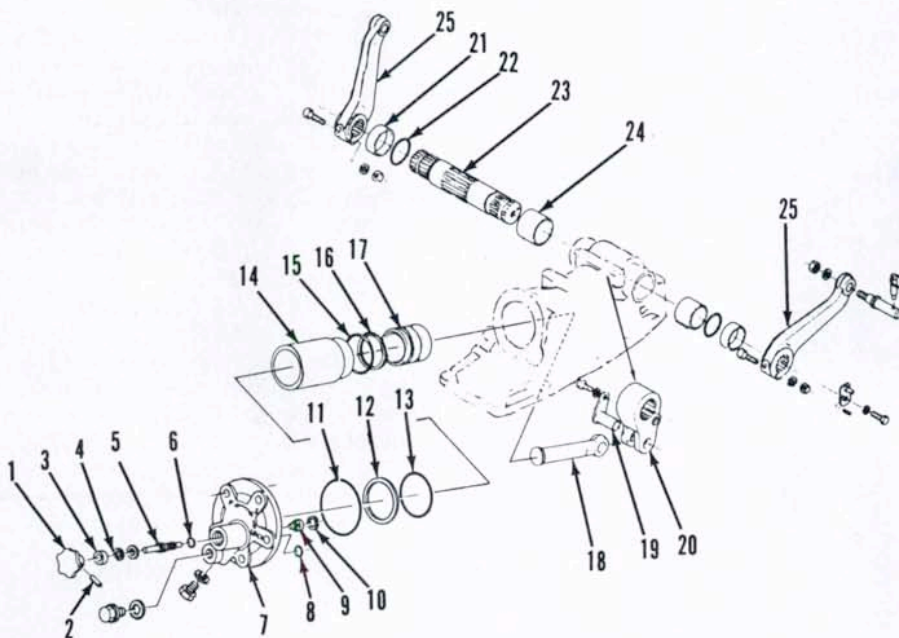
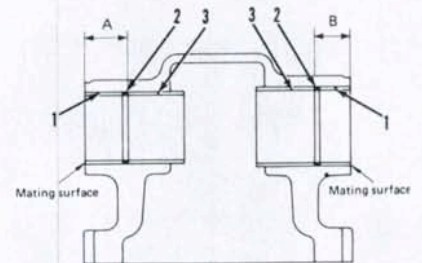

Fig. 172—Exploded view of rockshaft assembly and lift cylinder assembly used on all models.
Fig. 174—When renewing rockshaft bushings, press bushings into housing bores to dimension "A" on right side and dimension "B" on left side.
**128. OVERHAUL.** To remove hydraulic cylinder head (7—Fig. 172), cylinder liner (14) or piston (17), first remove cylinder head mounting cap screws. Apply down pressure to lift arms to force off cylinder head. Cylinder liner and piston may come out with cylinder head. If they do not come out, hand push piston and liner out of housing.
Remove retaining pin (19—Fig. 172), piston rod (18) and lift arms (25). Bump rockshaft (23) out right side of housing. Spacers (21), "O" rings (22) and bushings (24) can be removed at this time.
Inspect cylinder liner and piston for excessive wear, scoring or other damage. Renew cylinder liner if wear exceeds 0.15 mm (0.006 inch). Clearance between rockshaft and bushings should not exceed 0.5 mm (0.020 inch). Press new bushings (3—Fig. 174) into housing until 30.5-31.5 mm (1.20-1.24 inches) below outer surface (A) on right side and 26.5-27.5 mm (1.05-1.08 inches) below outer surface (B) on left side. Clearance between piston rod (18—Fig. 172) and pin (19) should not exceed 0.4 mm (0.016 inch).